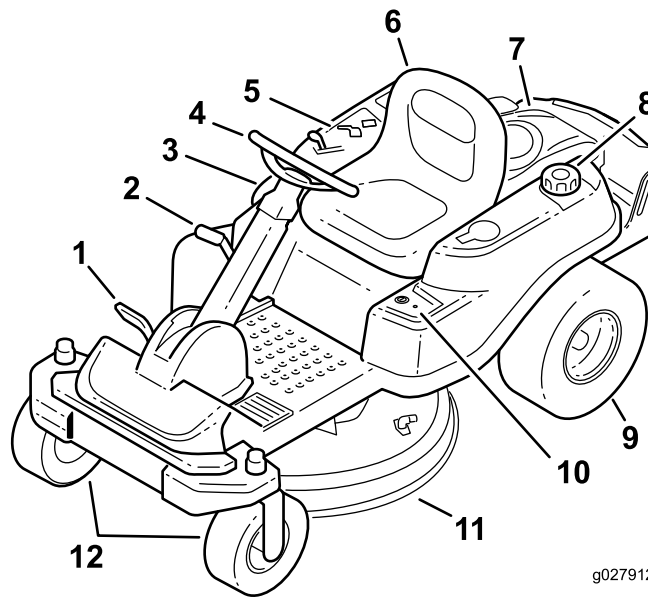
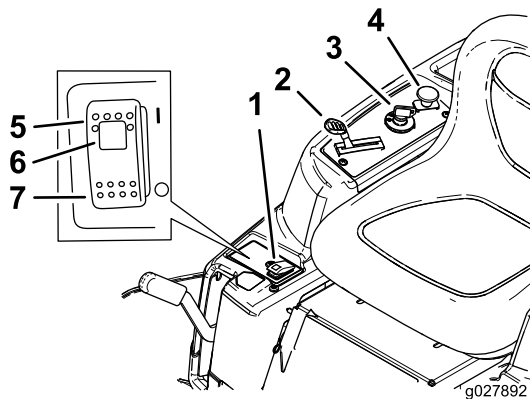
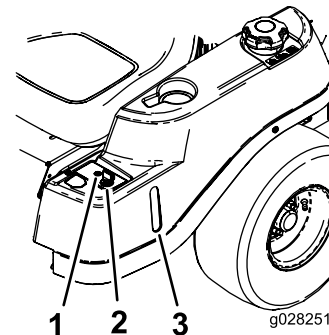

Figure 4
Figure 5
Figure 6
Become familiar with all controls in Figure 4 , Figure 5 , and Figure 6 before you start the engine and operate the machine.
The ignition switch has 3 positions—Off, Run and Start. The key will turn to Start and move back to Run upon release. Turning the key to the Off position will stop the engine; however, always remove the key when leaving the machine to prevent someone from accidentally starting the engine (Figure 5).
variable setting from Slow to Fast. Engage the choke by moving the lever past the Fast setting until it stops (Figure 5).
The blade-control switch, (PTO), engages and disengages power to the mower blades (Figure 5).
The fuel window located on the left-hand side of the machine, can be used to verify the presence of gasoline in the tank (Figure 6).
The Operating-in-Reverse warning light will illuminate whenever the KeyChoice key is used to deactivate the operating-in-reverse interlock. It is a reminder that the interlock system is deactivated. The light goes out whenever the PTO is disengaged or the engine is shut off. When the light is on, look behind and use extra caution when backing (Figure 6).
- Pressing the SmartPark™ switch to the On position (Figure 5).